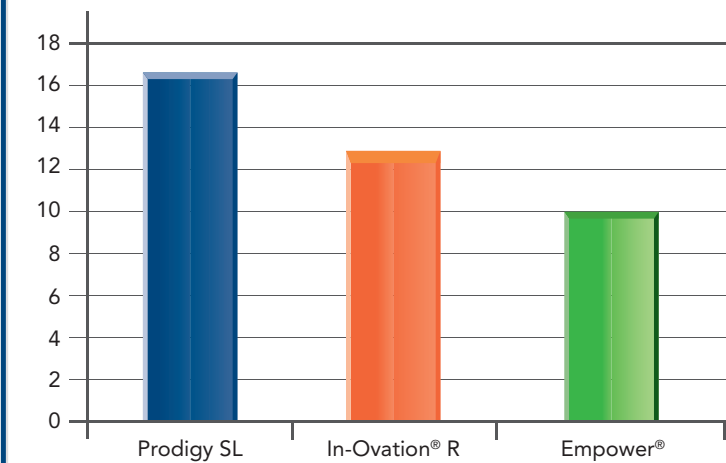

Fig. 2: In vitro design verification comparison testing shows that Prodigy SL has greater shear bond strength than other self-ligating appliances.
- Patented laser-etched pad provides optimal bond strength and reliability (Fig. 2)